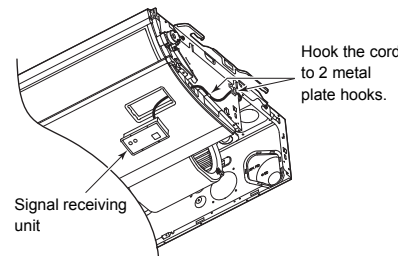

Fig.3
4. Fix the lead wire of the signal receiving unit to the cord clamp which fixes the wires of the louver motor. (Fig. 3)